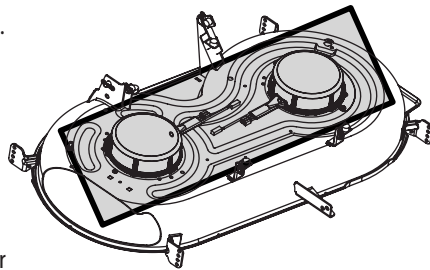

Figure 15
- Clean the top of the tractor deck. See Figure 15.